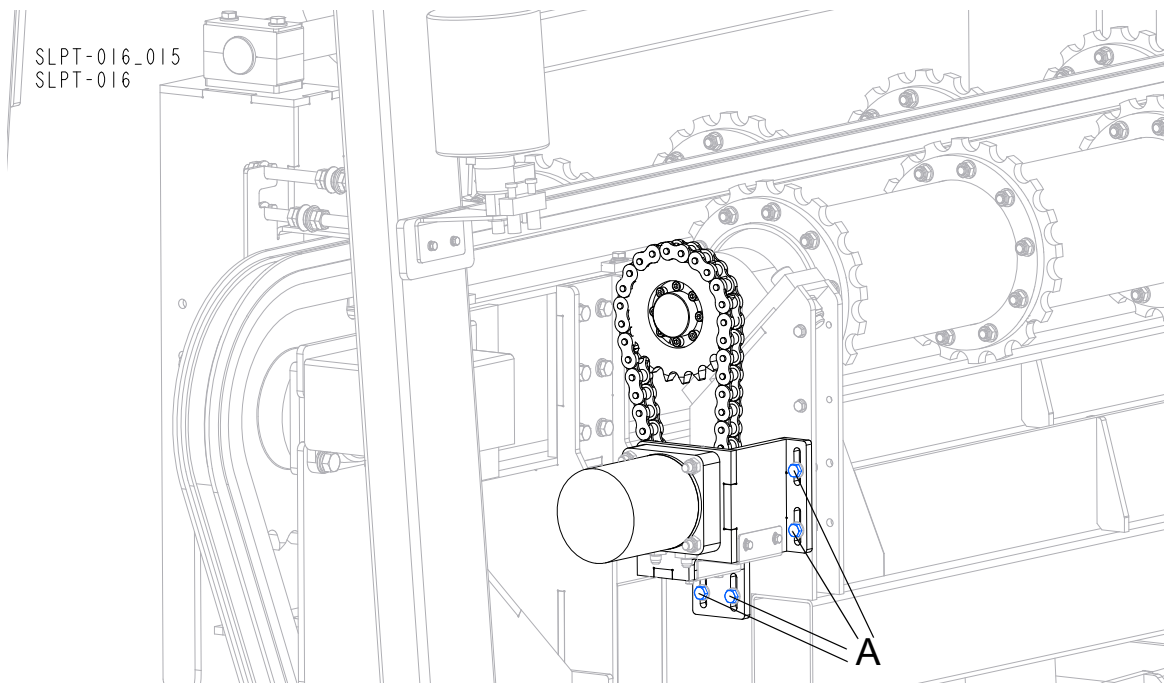

FIG. 5-24
See Figure 5-24 Tension the log turner drive chain using the fasteners (A).